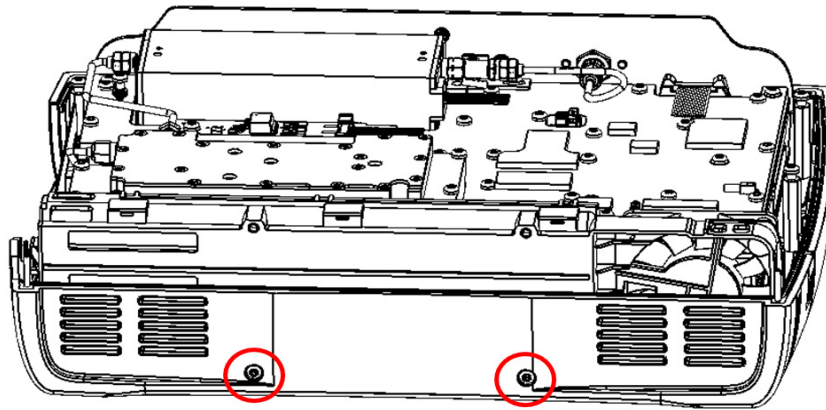

**Figure 5-2.** Battery Compartment and Fan Removal
3. On the bottom of the unit, remove the remaining two screws securing the battery compartment to the front case as shown in Figure 5-2